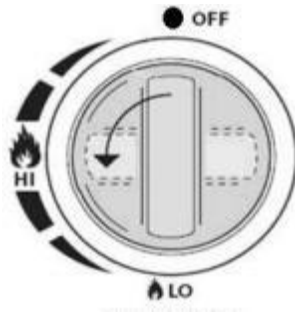

Figure 3
4. Push the control knob down and turn the knob counterclockwise to the "HIGH" position (figure 3). Press the ignition button . You will hear a click and the burner will light. If the burner does not light, repeat this step 4-5 times.